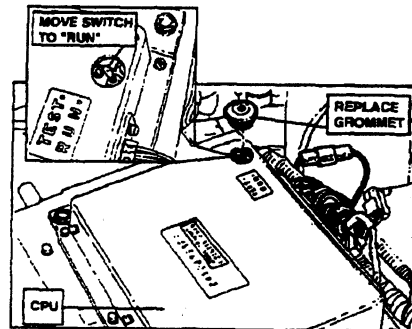

FIGURE 6.38
26. Move the CPU "TEST-RUN" Switch in the "RUN" position and replace grommet. See Figure 6.38.